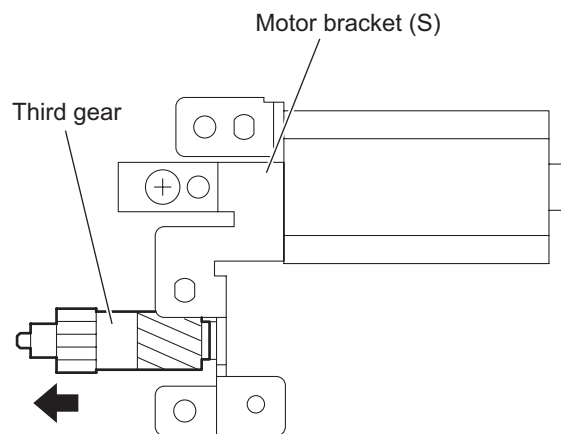

Fig.8
- (5) Pull the third gear out of the motor bracket (S) in the direction of the arrow. (See Fig.8.)